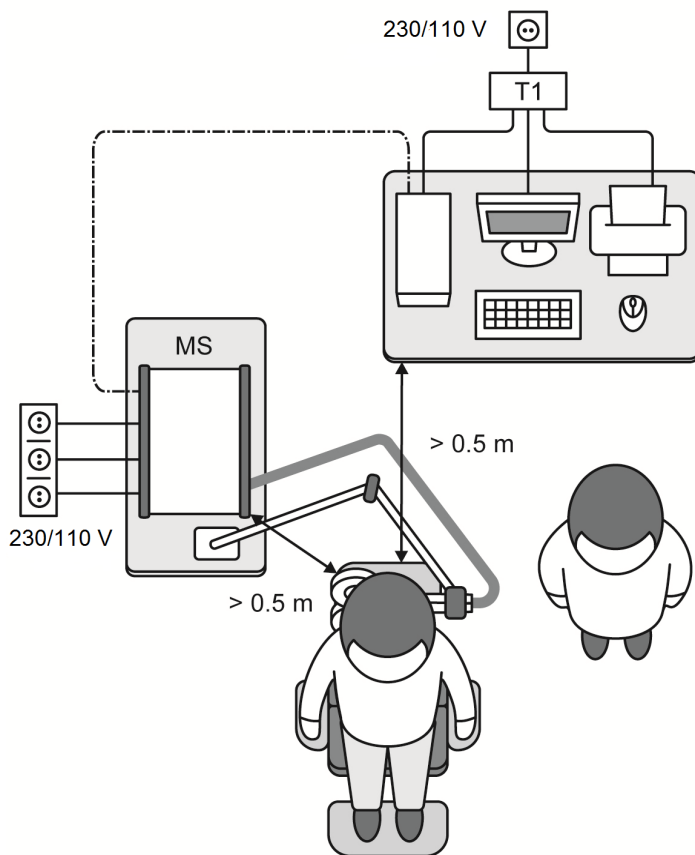
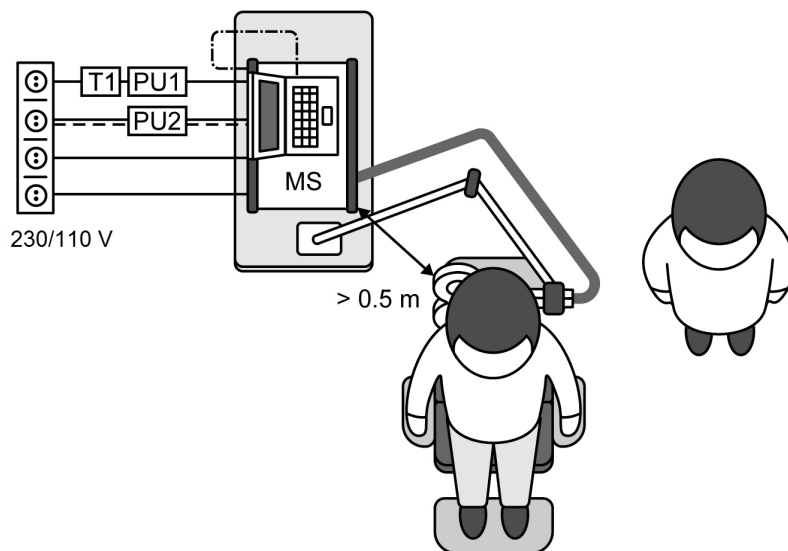

Fig. 14. The block diagram of stimulator placement when connecting to digital EMG systems.
Fig. 15. The block diagram of stimulator placement when connecting to digital EMG systems produced by other manufacturers.
- When placing the electronic unit of stimulator in the immediate vicinity of any electronic equipment, see the block diagrams shown in Fig. 14 and Fig. 15.